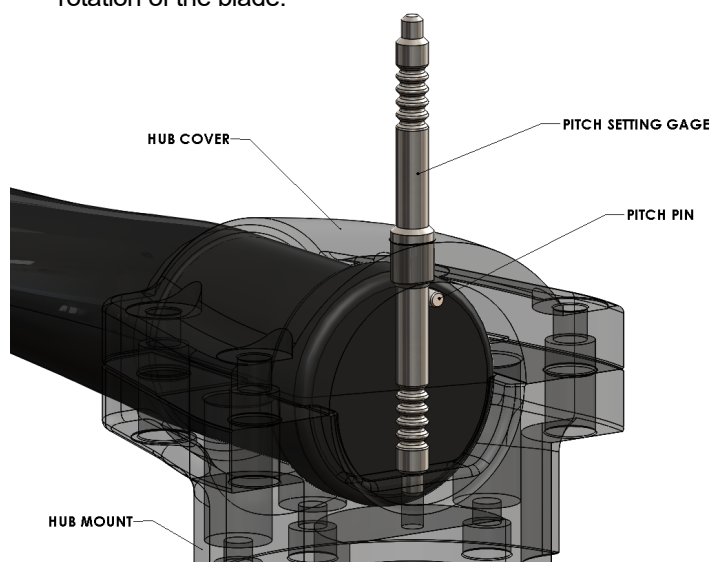

FIGURE 3. PITCH SETTING GAGE DETAIL
8. Insert the pitch setting gage through that blade's receiving hole in the hub cover half and into the gage hole in the hub mount half. See **Figure 3**. Unless specified by the aircraft manufacturer, use pitch setting 4 to start. The pitch setting # indicates relative pitch; pitch 5 is higher pitch than pitch setting 4, etc...
3. Insert the desired pitch setting gage into the receiving hole in the hub cover half and gage hole in the hub mount half. See **Figure 3**.